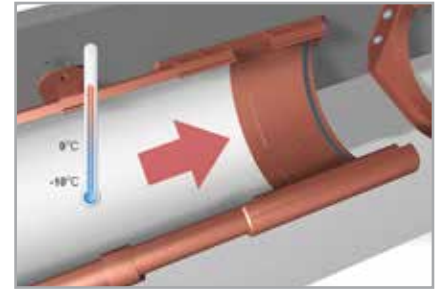

Fig. 6
- 1.11 To allow thermal expansion of the corners and connectors, the end of the gutter should be set in line with the auxiliary lines **(Fig. 6)**